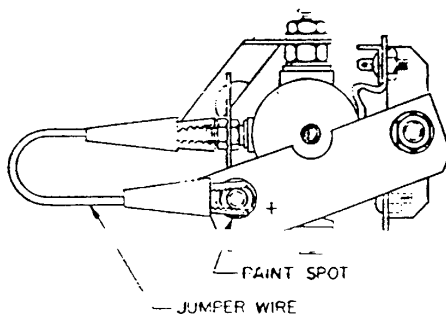

Figure 8-6. Jumper Connection - Small Frame Unit
3. Remove the PC board from the starting circuit by bypassing it with a jumper as shown in Figure 8-6 or 8-7.